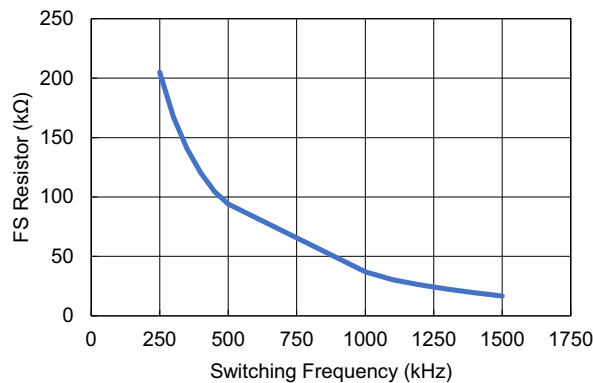

Figure 50. RFS vs Frequency
**IMPORTANT:** Equation 1 approximates the real data presented in Figure 50. The data used for Figure 50 is typical, and there is some variation because of temperature and variation. This variation is shown in the electrical specifications table by providing four fixed resistors and the frequency and tolerance achieved with those resistors.